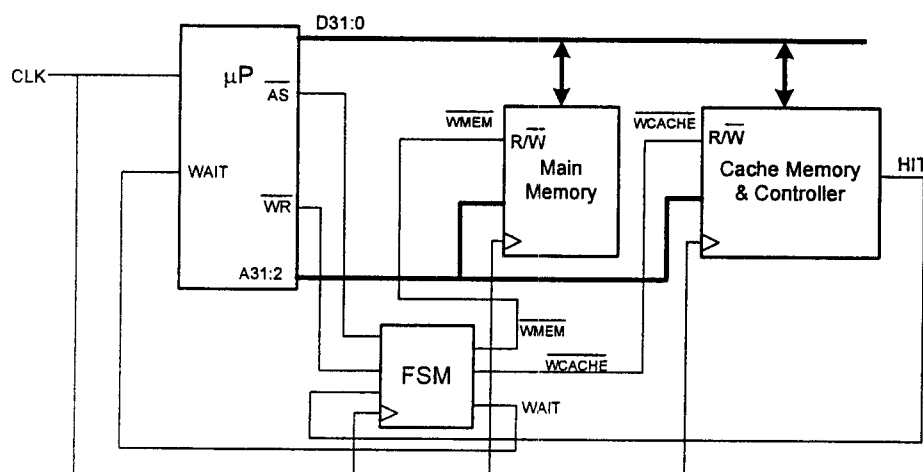
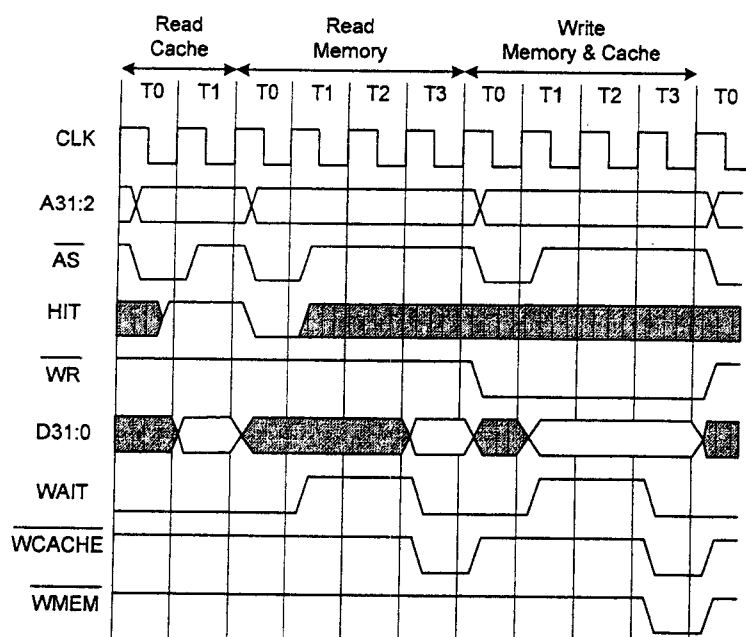

Figure 4.1
Figure 4.2
4. In a 32-bit microprocessor system shown in *Figure 4.1*, a fast cache memory is used to increase the effective speed of the main memory. The operation of the microprocessor and the memory interface circuit is controlled by the clock signal CLK . *Figure 4.2* shows the timing diagram during three different types of memory accesses.